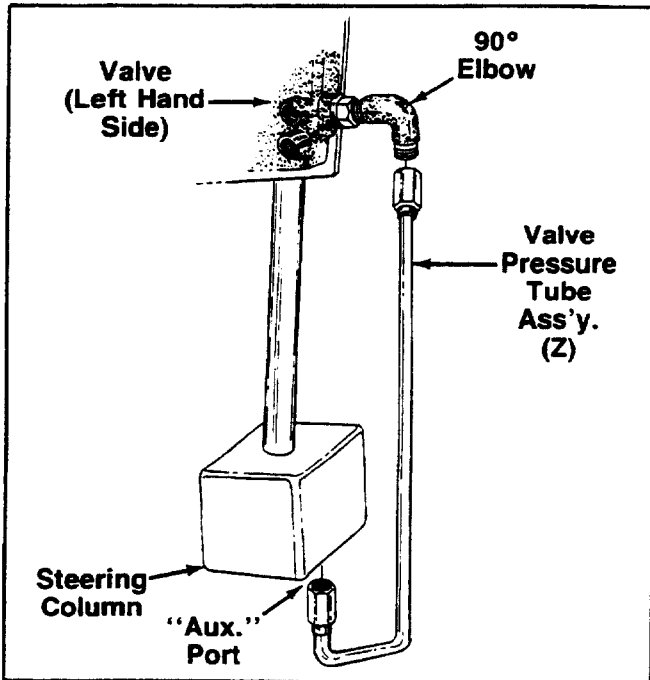

FIGURE 21.
13. Assemble the valve pressure tube assembly (Z) to the 90° tube elbow located on left hand side of valve. Do not tighten at this time. See figure 21. Assemble the other end of the valve tube assembly to the "Aux." port on bottom of steering column and tighten securely. See figure 21.